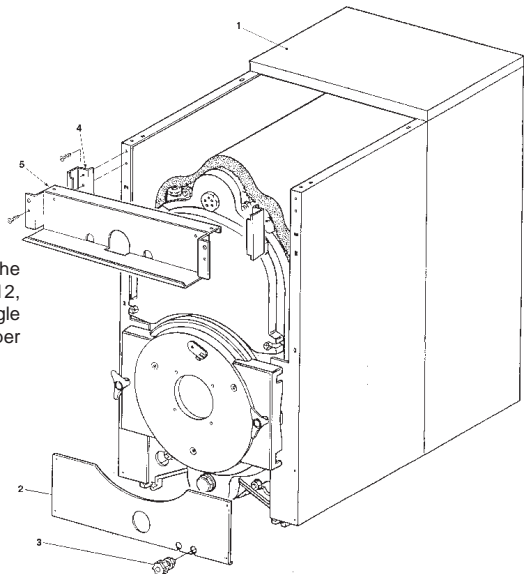

Fig. 33
5.11 (Fig. 33) Fix the upper panel 1, according to the dimension of the boiler. Prepare the front lower pannel 2, fixing the grommet 3 for the cable of the burner. Fix angle 4 on the both sides. Fix the safety wiring box 5 on upper angle.